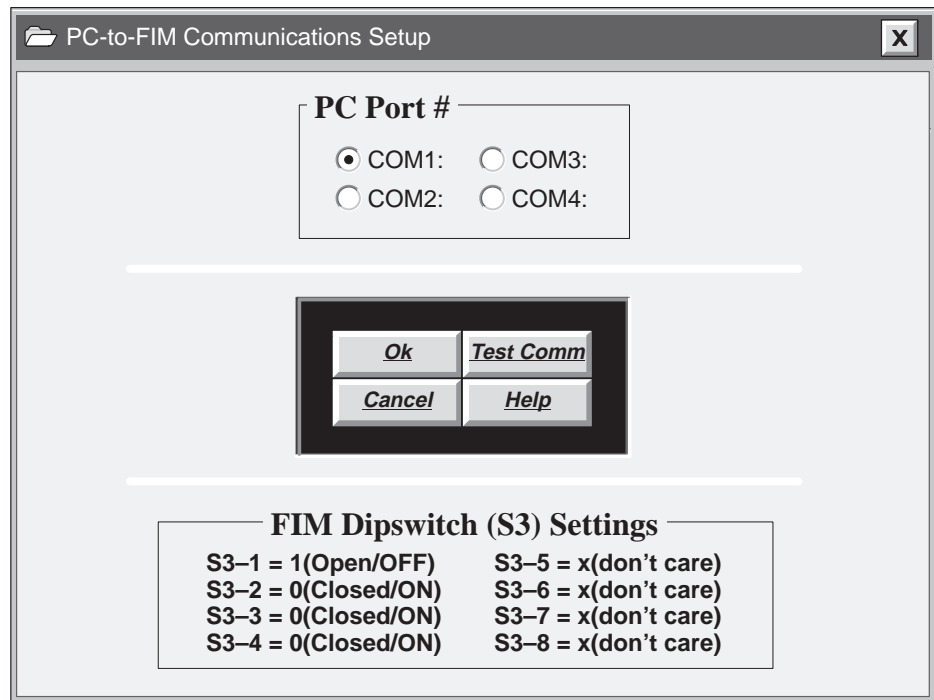

Figure 4-12 PC-to-FIM Communications Setup Dialog Box
Result: The PC-to-FIM Communications Setup dialog box appears, as shown in Figure 4-12.
8. Select the Test Comm button (shown in Figure 4-12). If everything is connected properly, a confirmation message is displayed; otherwise, a failure message is displayed.